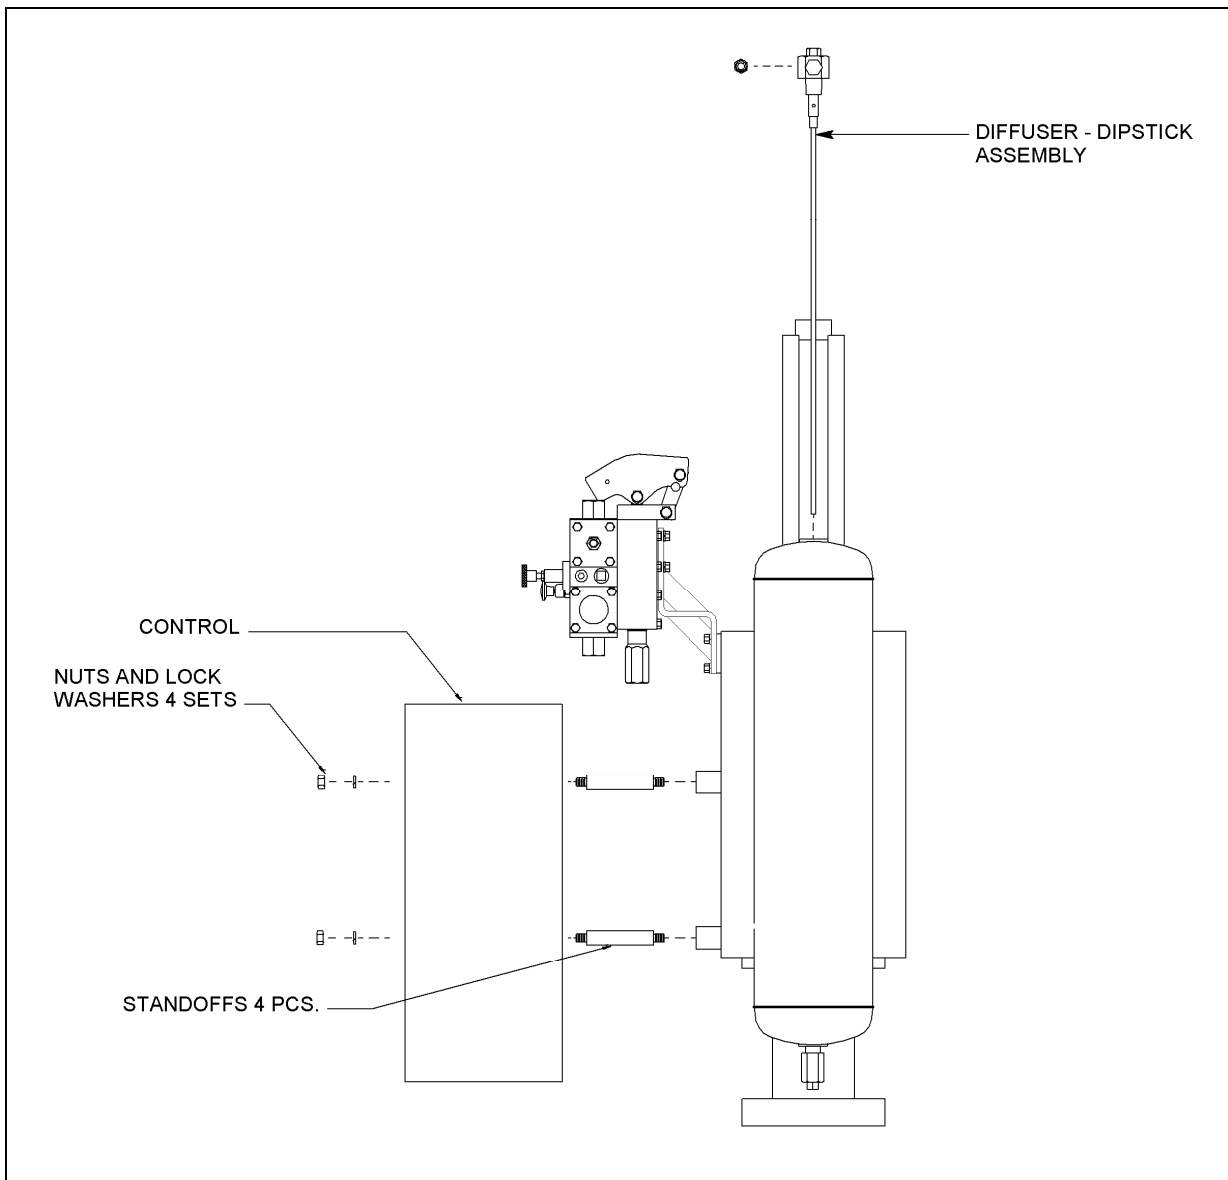

Figure 1: Install New Control
1. Install the four standoffs to the mounting bracket. (See Figure 1)
2. Fasten Control with nuts and lock washers. (See Figure 1)